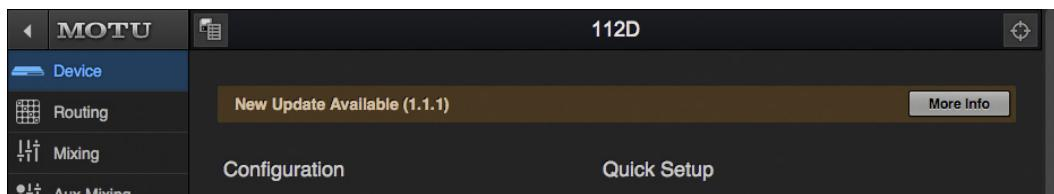

Figure E-1: The firmware update banner appears automatically at the top of the Device tab when your web host has internet access and MOTU posts an update.
- 3 In the *New Update Available* banner (Figure E-1), click *More Info*.